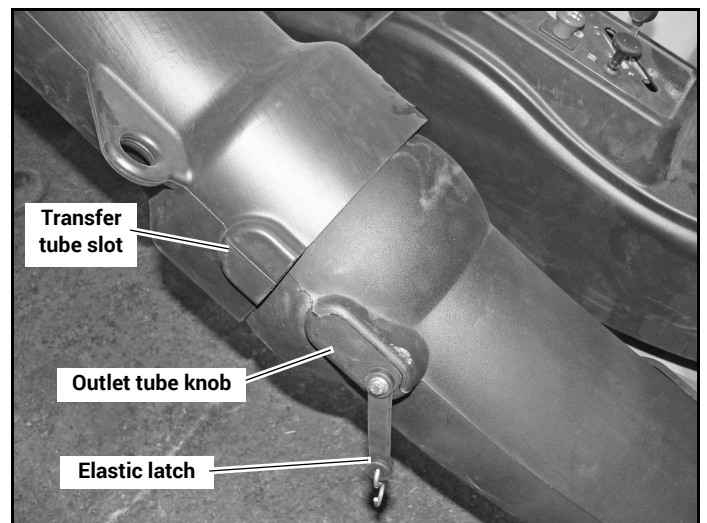
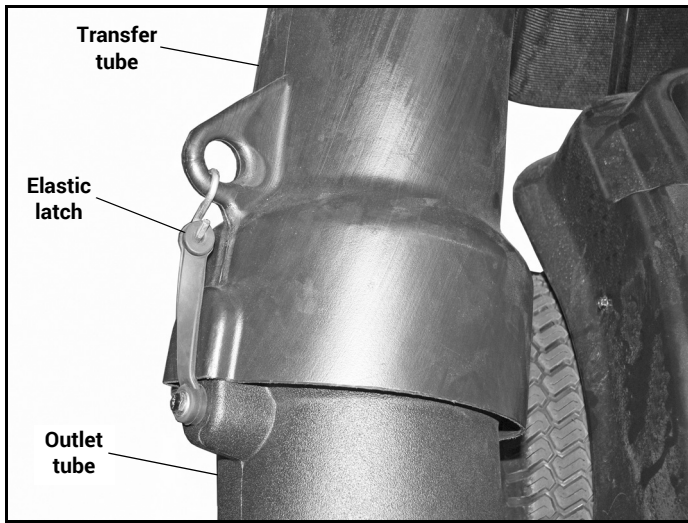

Figure 3-13
Figure 3-14
15. Attach the transfer tube to the outlet tube by aligning the slot on the transfer tube with the knob on the outlet tube and hooking the elastic latch through the loop of the transfer tube. Figure 3-13 & Figure 3-14